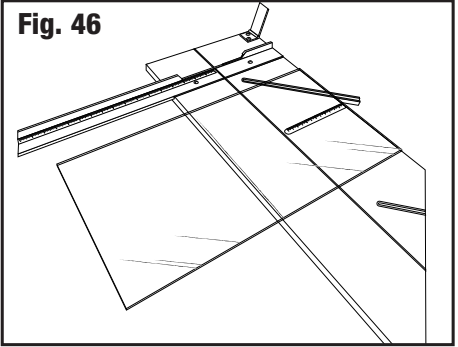

Fig. 47
9. Press down on overhanging glass to separate (**Fig. 47**).